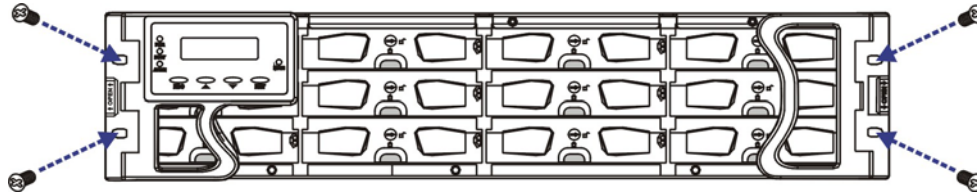

Figure 2-4: Front Ear Holes
- Use M5 or M6 pan-head screws to secure the chassis to the front cabinet posts. The front ear holes are shown in **Figure 2-4**.